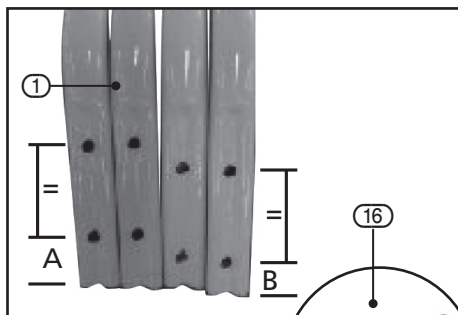

FIG.2
8.1 SUPPORT STAND – FIGS. 2 – 3
- Sort the 4 support legs (1) into two pairs with matching drill holes.
- Attach one pair of legs to the fixing tube (1.1) on opposite sides, fix with the M8 × 100mm bolts/nuts (16), then fix remaining legs.